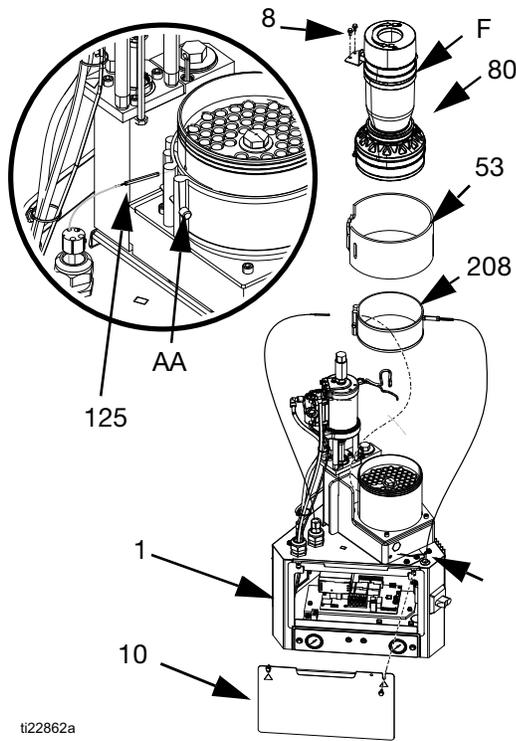
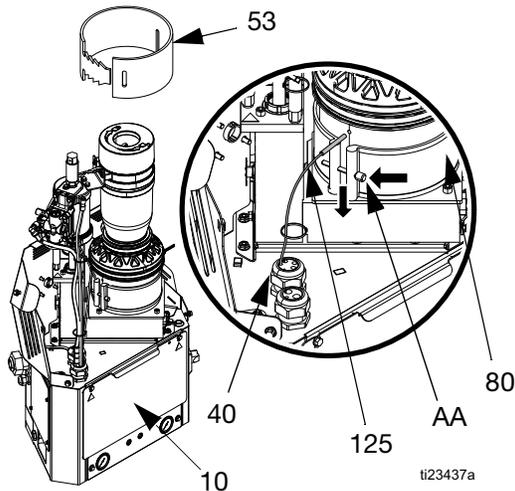
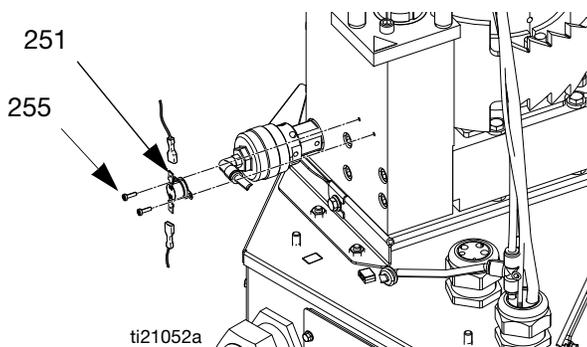

FIG. 39
FIG. 40
FIG. 41
5. Remove cable from ADM (30) then slide forward the shroud (29) and remove it from the system.
6. Remove screws (8) then remove electrical enclosure front access door (10).
8. Remove the air tube (36) from the relief valve (245). Pull the air tube from the metal shroud (27).
9. Remove nuts (3) on the back metal shroud (27) then remove shroud.
10. Remove fabric melter insulator (53).
11. Loosen screw (AA) then remove sensor (125). See FIG. 40, page 69.
12. Loosen hose clamp (81) then remove funnel (FF).
13. Remove wire connectors from the over-temperature switch (251).
14. Remove insulators (53, 75) from the melter assembly (5).
15. Disconnect the fill sensor cable from the fill sensor (20). See **Replace Fill Sensor**, page 76.
17. Remove the air tube from the air motor (218).
18. Loosen screw (AA) then remove sensor (125). See FIG. 39 on page 68.
19. Disconnect ground screw (87) and ring terminal (88) from melter assembly.
6. Connect air tube to air motor (218).
7. Connect fill sensor cable to the fill sensor (20).
9. Install funnel (FF) then tighten clamp (81).
10. Install temperature sensor (125) into melter then tighten screw (AA) on band heater. See FIG. 39 on page 68.
11. Install insulators (53,75) onto the melter assembly (5).
12. Connect ground wire ring terminal (87) and ground screw (88) to melter assembly (5).
13. Connect wire connectors to the over-temperature switch (251). See FIG. 41 on page 70.
14. Use nuts (3) to install metal shroud (27).
15. Pull the relief valve air tube (36) through the metal housing then attach air tube to relief valve (245).
16. Install front access door (10) onto electrical enclosure (1).
18. Reconnect all heated hoses to the melter outlet manifold (203).
Disassembly (see FIG. 39):
Reassembly (see FIG. 39):
6. Install electrical enclosure access door (10). See FIG. 39.
7. Use clamp (80) and screws (8) to install funnel assembly (F) on melter assembly. Ensure rubber housing is fully seated on melter or incorrect
Disassembly (see FIG. 40):
6. Remove fabric melter insulator (53).